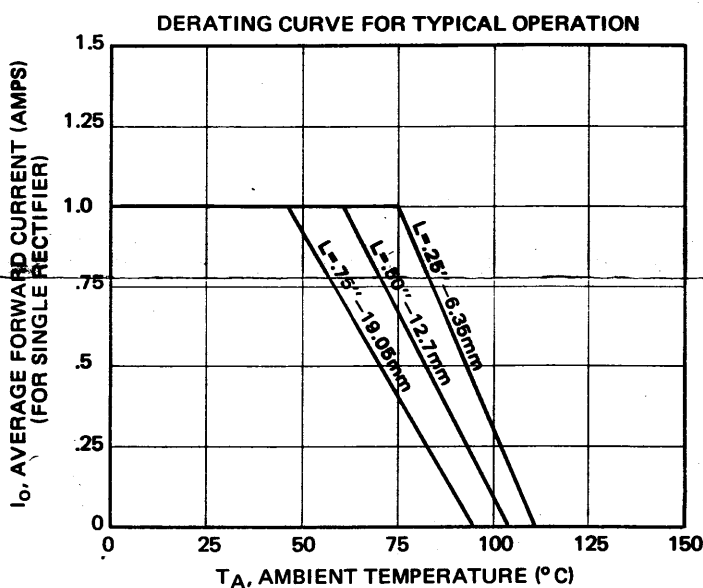

FIGURE 5
1. The derating curve of figure 5 may be used for initial design work.